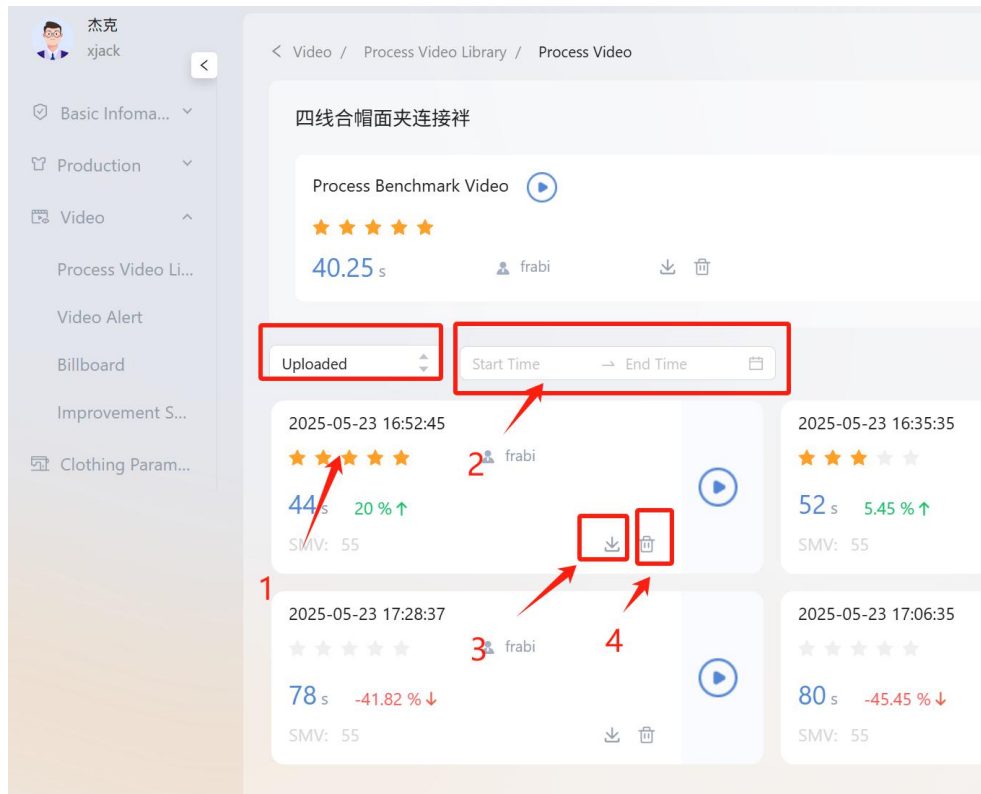

图 2
2、Ordinary process video: Click the "Play" button to enter the comparison page with the benchmark video in Figure 2.